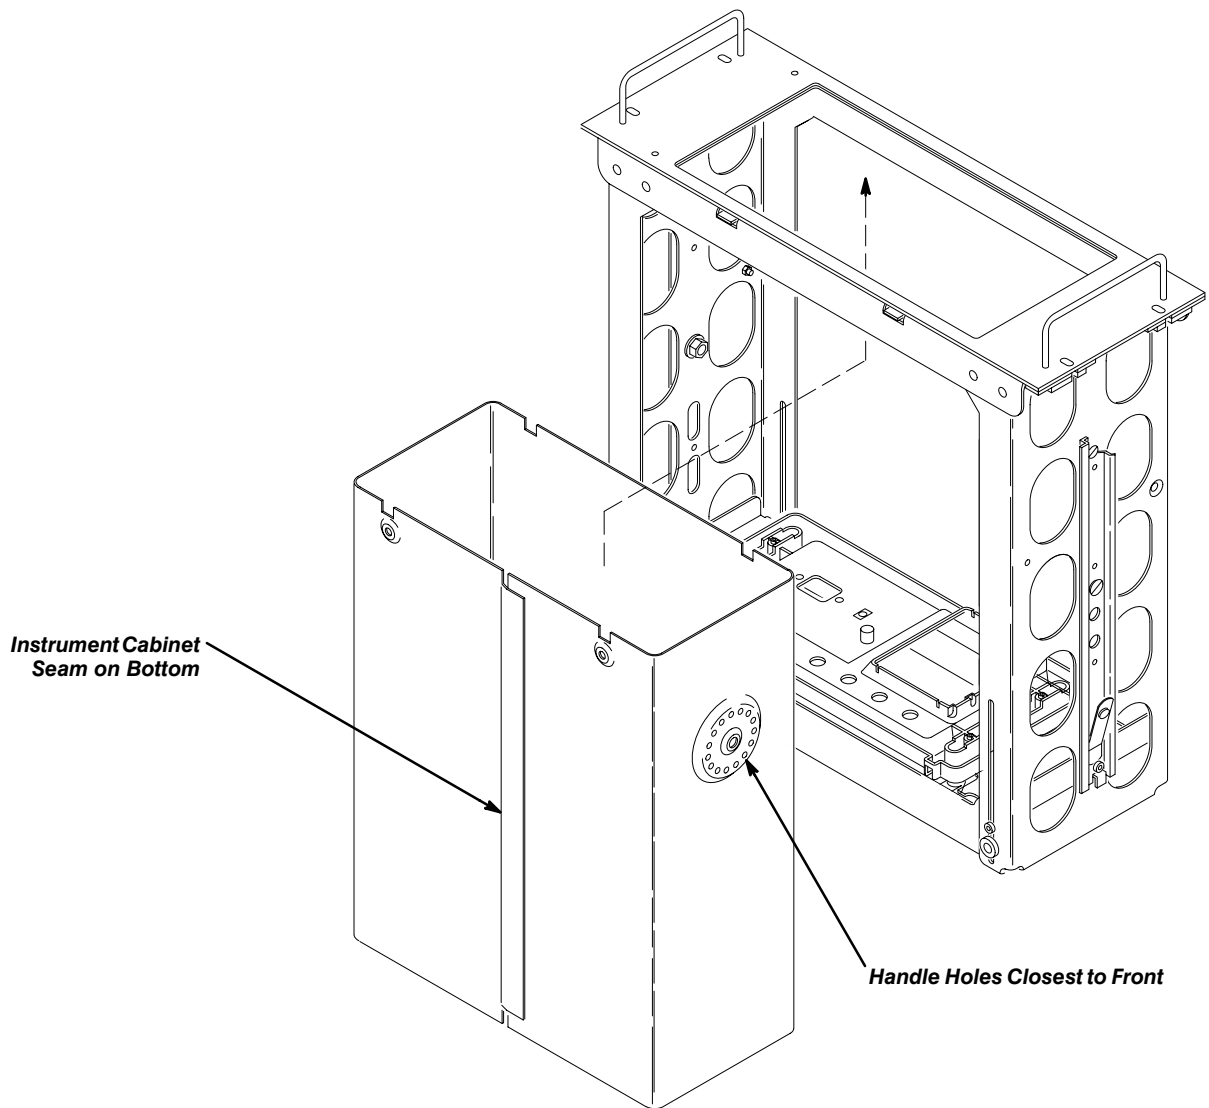

Figure 9: Insert the Instrument Cabinet into Rack Adapter
- f. Insert the instrument cabinet into the rack adapter through the top or bottom of the adapter chassis. The cabinet seam should be on the bottom and the handle holes nearest the front. See Figure 9.